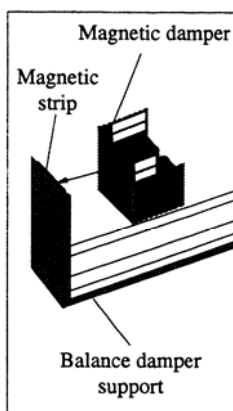
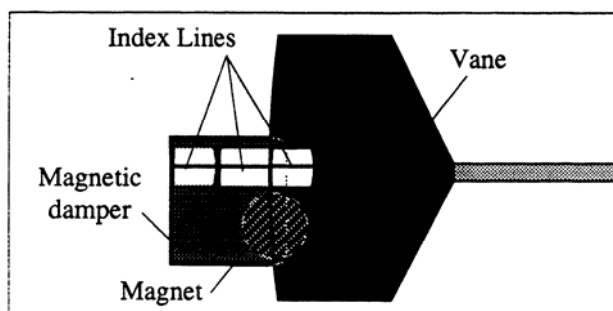

Figure 7
Figure 8
7. Position the slidable damping magnets (Figure 7) so that when the balance beam is horizontal (which it should now be) the index line on the vane lines up with both index marks on the magnetic damper (Figure 8).
index line on the vane lines up with both index marks on the magnetic damper (Figure 8, again). This state of the balance may be referred to as the balance “reading zero.”